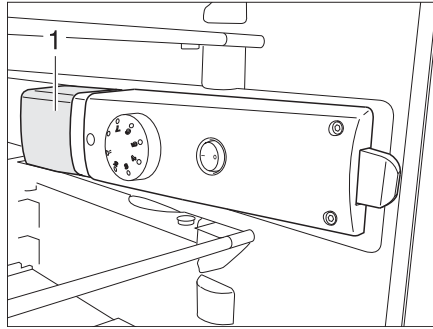

Fig. 315 Refrigerator light
- Grip under the light covering (Fig. 315,1) from behind and raise the light covering approximately 3 mm.